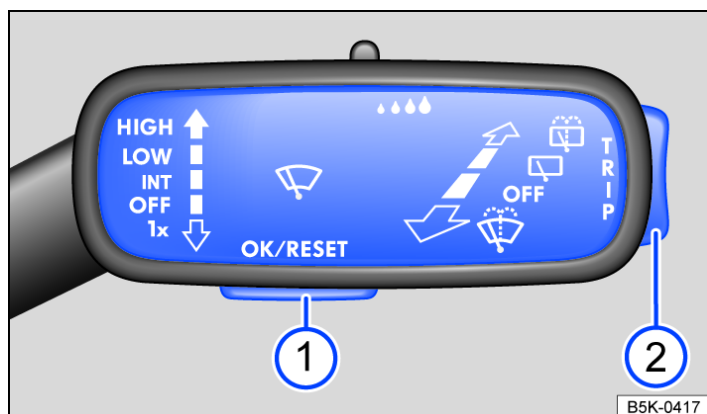

Fig. 1 On the right of the steering column: buttons on the wiper lever (illustration).
If any priority 1 warning messages are displayed, you will be unable to open any menus. Some warnings can be confirmed and hidden using the → Fig. 1 ① button.
— If a message or the vehicle pictogram is displayed, press the → Fig. 1 ① button, several times if required .